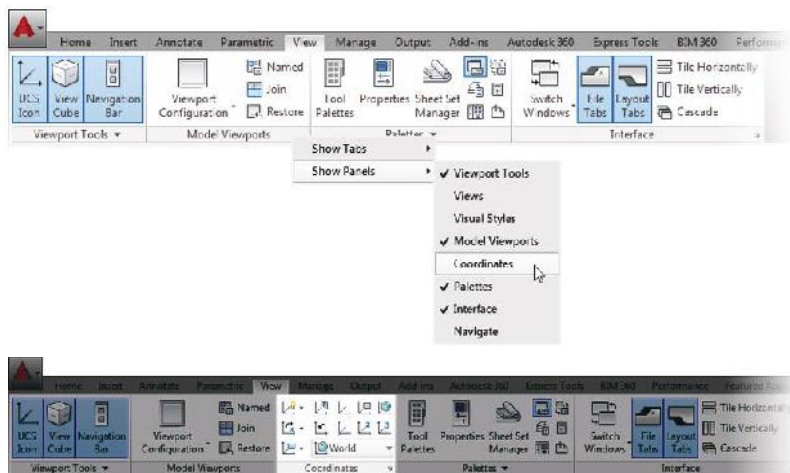

FIGURE 10.44: Loading the **Coordinates** Ribbon panel (top) and the **Coordinates** panel loaded onto the **View** Ribbon tab (bottom)
12. Right-click the Model Viewports panel title and select **Show Panels** > **Coordinates** (see the top of Figure 10.44).
The Coordinates Ribbon panel is now included within the View Ribbon tab (see the bottom of Figure 10.44).